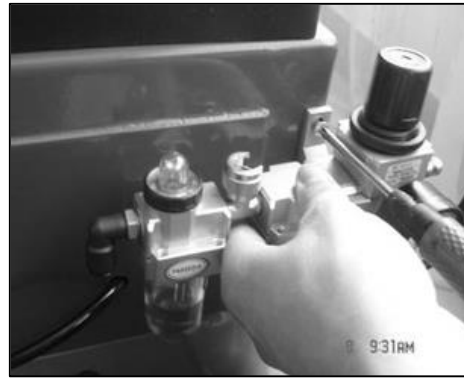

Fig. 12
3.3.1 Remove the AFRL and mounting screw from the accessory box. Remove any oil or dust. Use the screw to mount the AFRL to the right side of the body (Fig. 12).